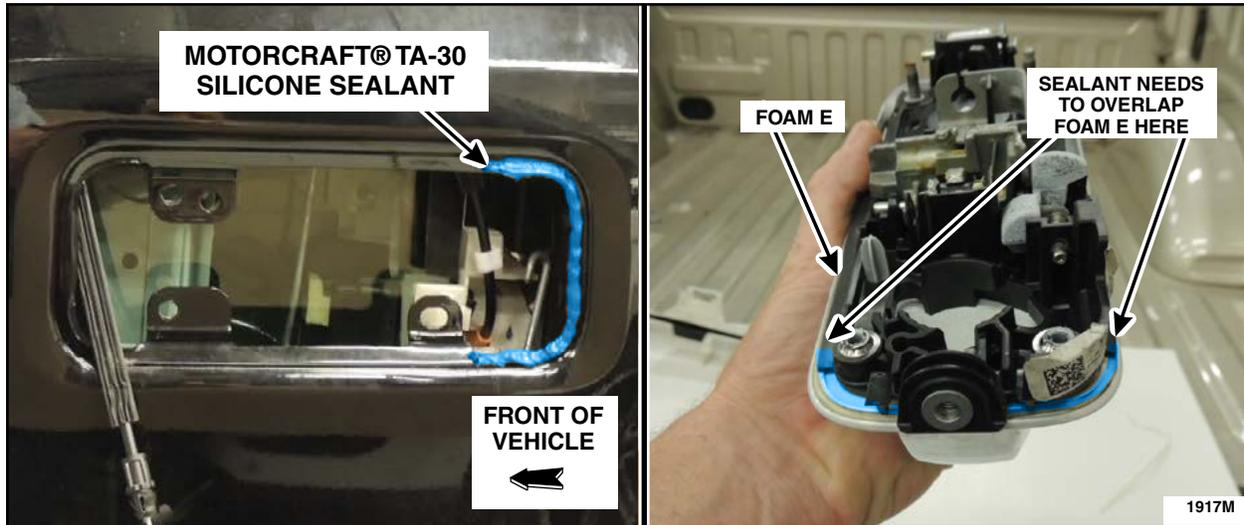

FIGURE 29
31. Apply a bead of Motorcraft® TA-30 silicone sealant to the latch side area of the front door exterior handle opening metal surface. Make sure that the sealant overlaps with the Foam E on the exterior door handle. See Figure 29.